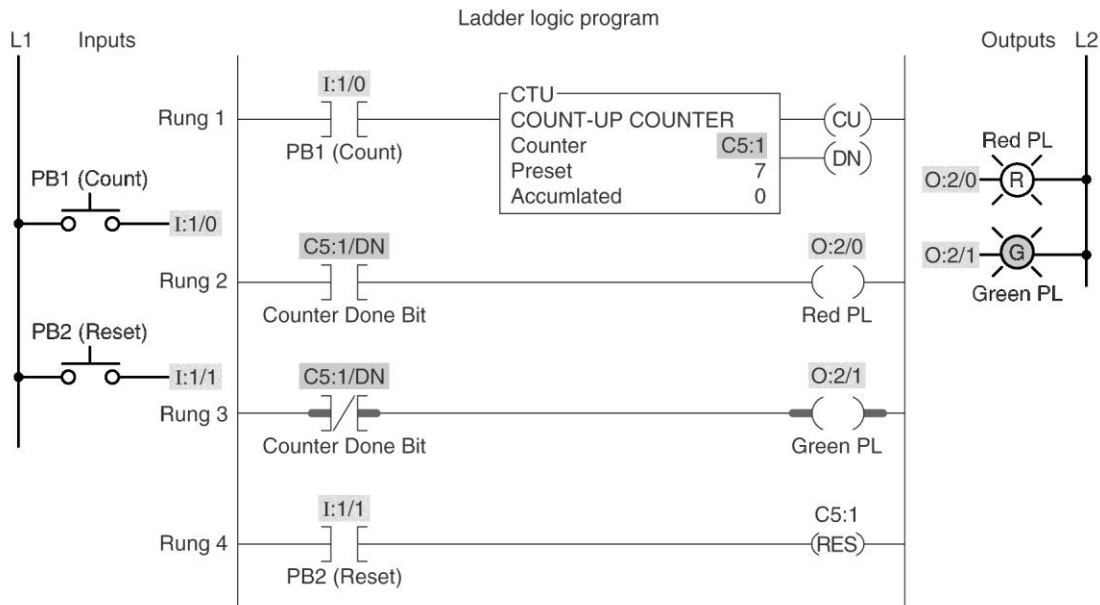

Figure 8-7 Up-counter program for assignment 1.
1) The operation of the up-counter program shown in Figure 8-7 is described in the text. Prepare an I/O connection diagram and ladder logic program for the process. Use addresses that apply to your PLC. Enter the program into the PLC, and prove its operation.